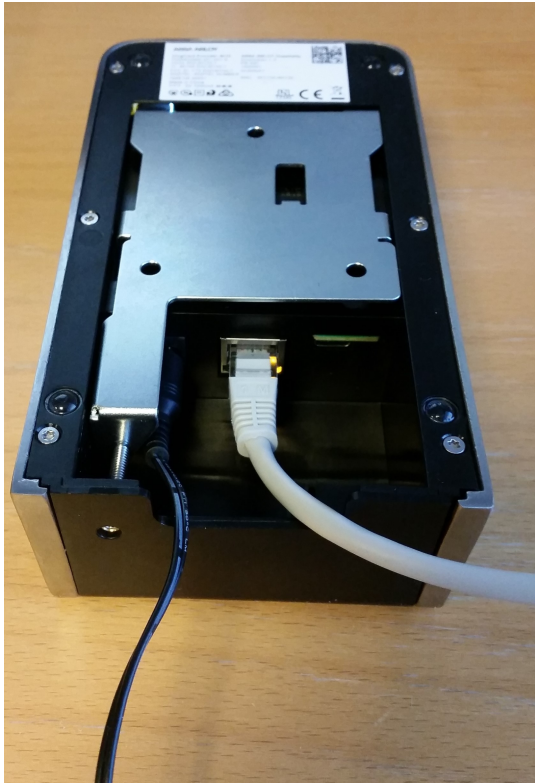

Figure 2
2. Connect the cables to the encoder as shown in Figure 2 (power cable and Ethernet cable). Note that the power cable is not needed if the encoder is connected via *Power over Ethernet* (PoE). If PoE is used, the PoE supply can maximum be PoE802.3at.
1. Loosen the screw which holds the gray bracket (see bracket in Figure 2) at the back of the encoder.